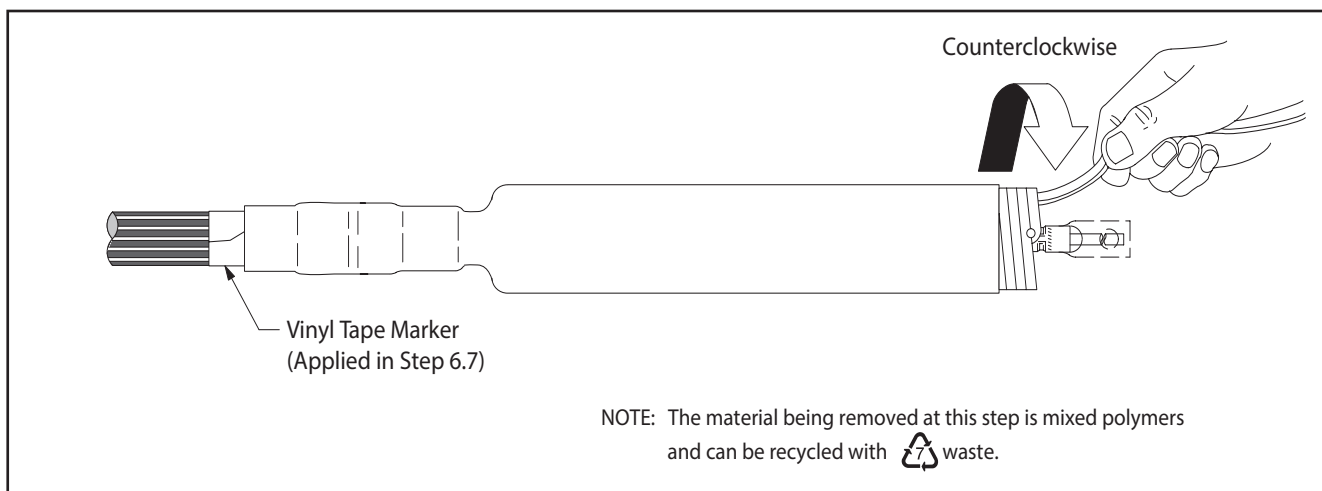

Figure 12
10.1 Slide the tubular termination body onto the cable and remove core. Make sure the termination body (not the core) is butted up to the edge of the vinyl tape marker previously applied (Figure 12). Pull the core while unwinding, counterclockwise, starting with the loose end (Figure 12). Be sure to alternate the pulling and unwinding actions (pull-unwind-pull-unwind-etc.) to help prevent the core material from binding up as the core is being removed.